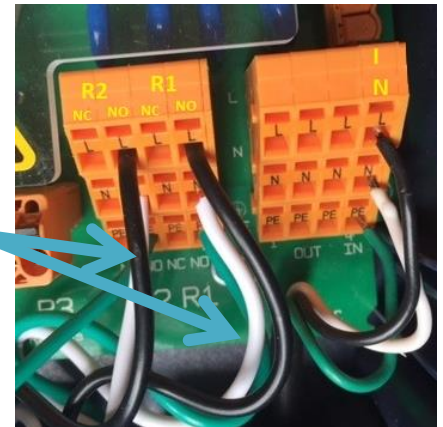

Figure 23 Terminating R1 & R2
**Note:** The terminal connectors have been removed from relays R3, 4 and 5 for clarity. See them in Figure 23.
Figure 23 shows relays R1 and R2 wired to outlet plugs. (Plugs not shown). Notice that the black, white and green wires for R1 are in the right most column of the terminal block, the NO column. Relay R2 also utilizes the NO column. These plugs will supply power when the controller turns them on.